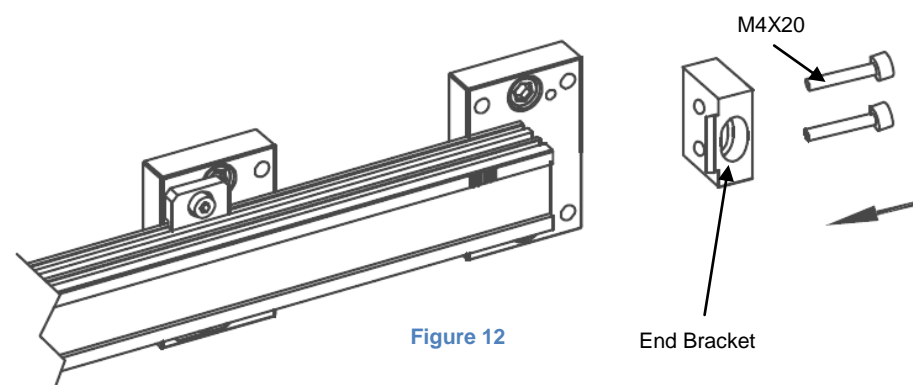

Figure 12
- Attach the scale end block as per Figure 12.